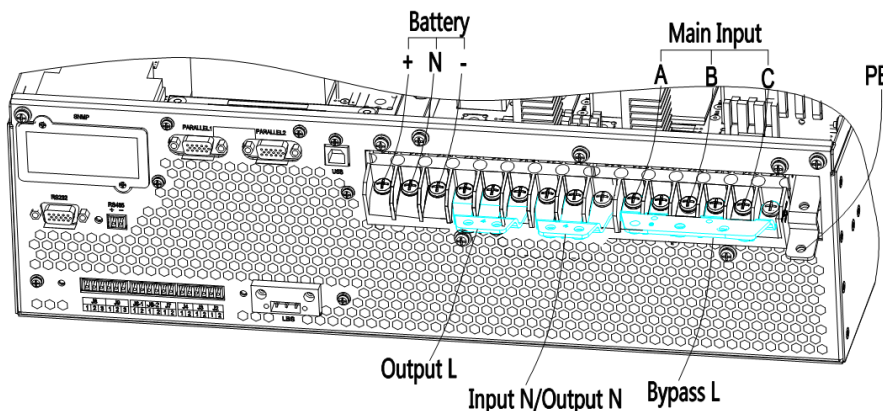

Figure 3-16 3-phase in and 1 phase out, common input
- 2.Short-circuit mA, bA, bB and bC with No.6 copper bar; short-circuit BATN oN, bN and mN with No.7 copper bar; short-circuit oA, oB, oC with No.4 copper bar .As shown in figure 3-16.